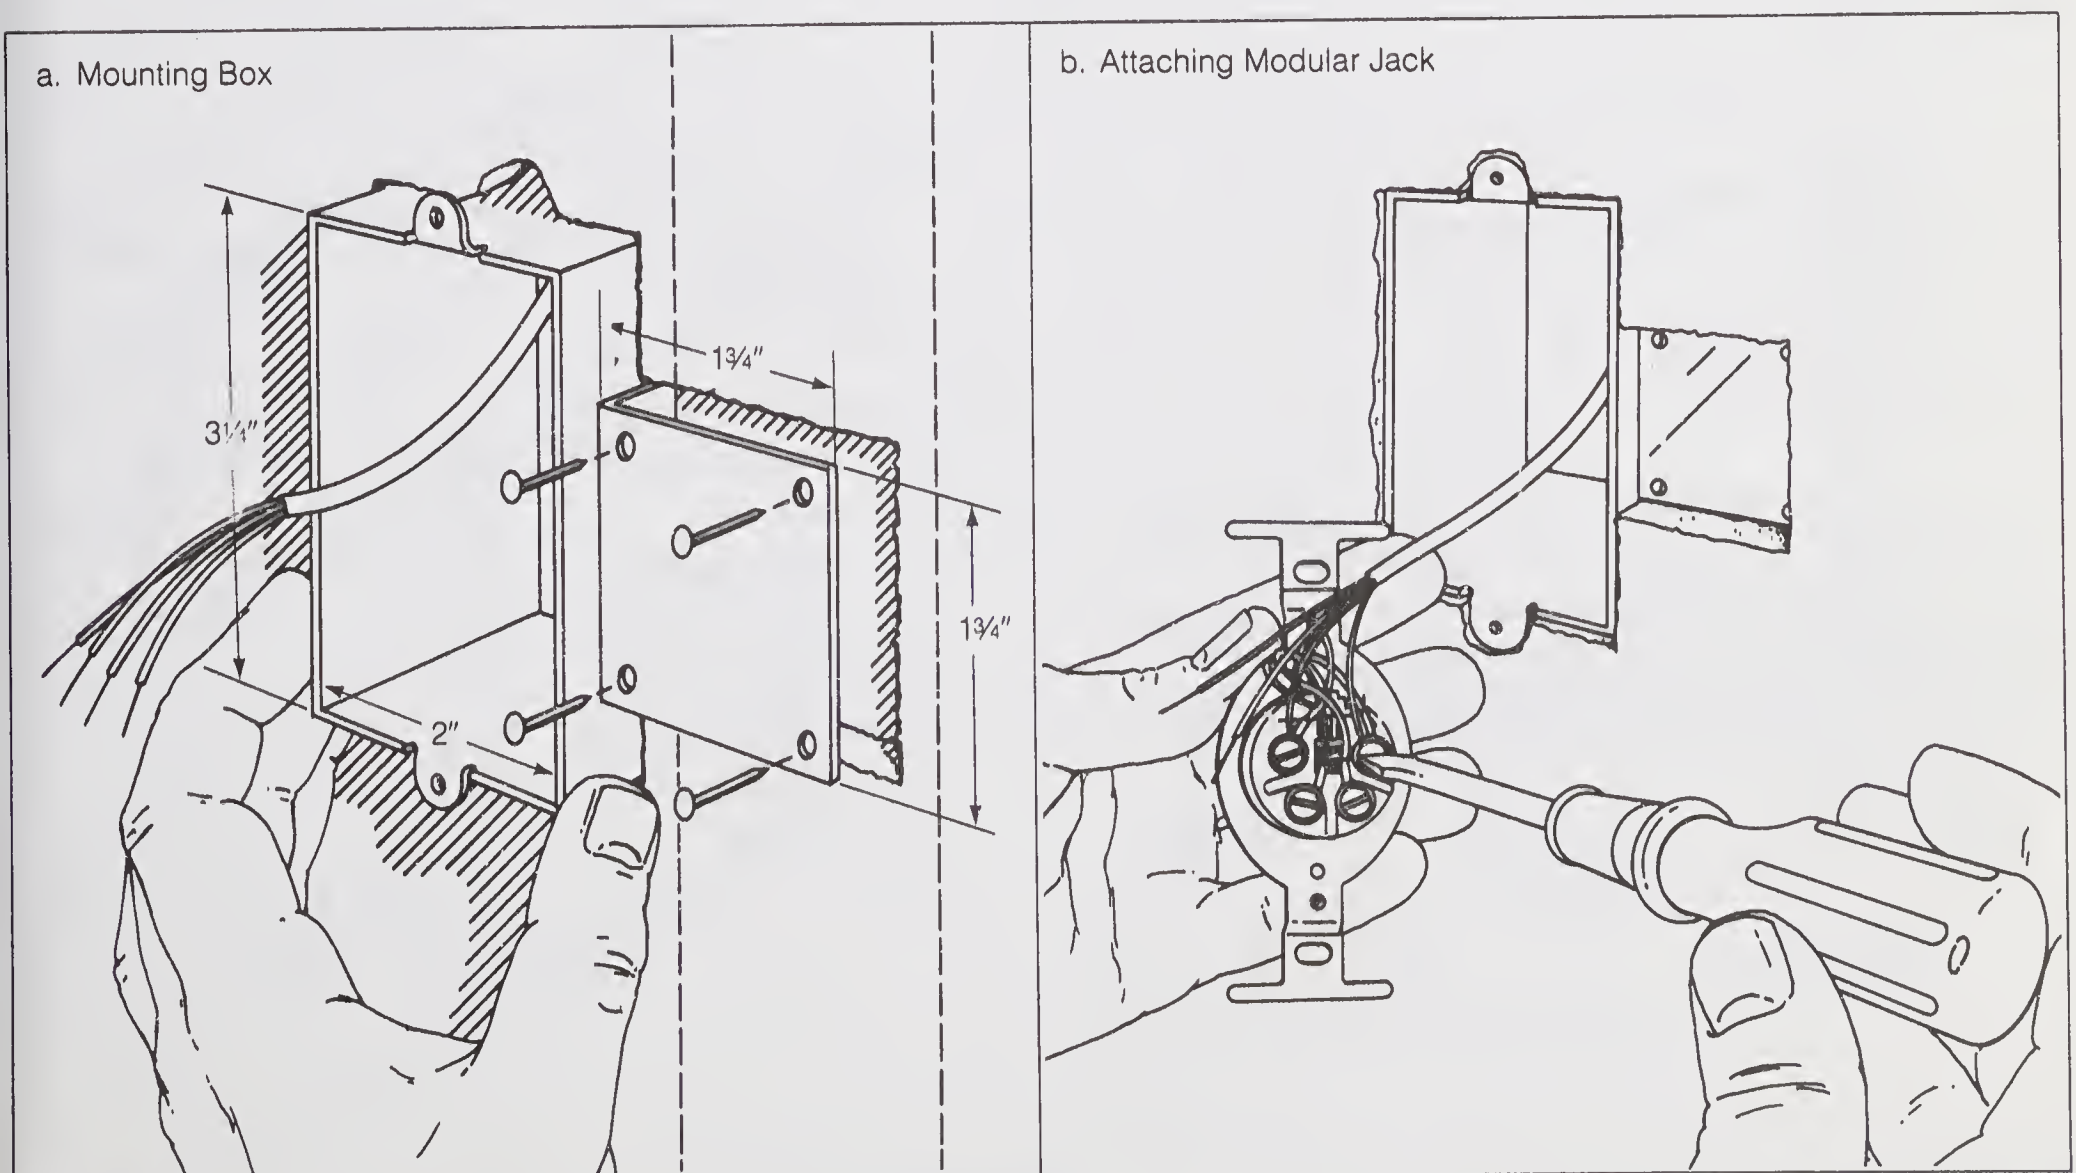

Figure 5-9.
2. Locate the position for the 42A blocks of outlets B and C and the outlet D box. Outlet D was chosen to have a rectangular outlet box like that shown in *Figure 5-9*. It could have been a round outlet as shown in *Figure 2-10a* and *Figure 5-6*.
12. Position the box and cut the hole in the wall for the outlet box as shown in *Figure 5-9*.
16. Mount the box, pull the cable through the box, attach the wires to the rectangular modular jack, and mount the jack as shown in *Figure 5-9*. After the faceplate is attached, outlet D looks like the rectangular outlets of *Figure 2-10a*.